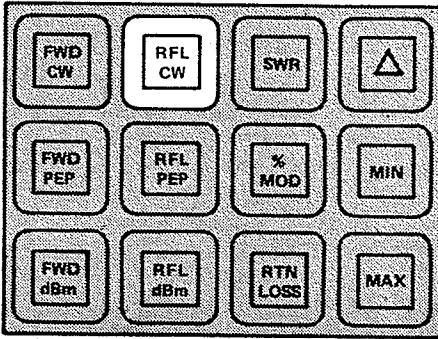

Figure 3-2. Reflected Power (CW).
b. Reading Reflected CW Power. (Figure 3-2.) Operation of the reflected CW power mode is identical to that for forward CW power described above with two exceptions: the readings are taken from the element in the socket marked "reflected" and the range of the element is assumed to be 1/10 the range indicated by the range slide switches.